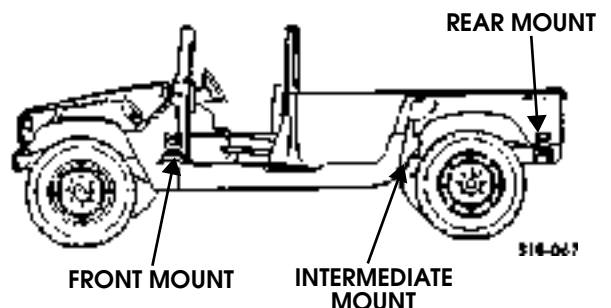

Figure 10-118: Left Side Body Mount Locations
2. Raise the vehicle at the body reinforcement adjacent to body mount to be removed (Figure 10-118).